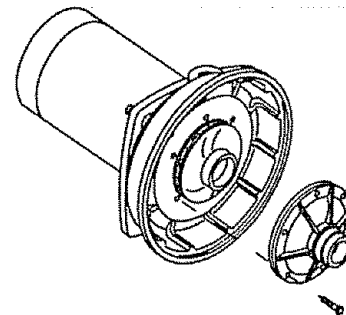

Figure 19- Remove Diffuser
1. Remove four screws fastening diffuser to seal plate; remove diffuser (see Figure 19). Exposed impeller can now be cleaned.